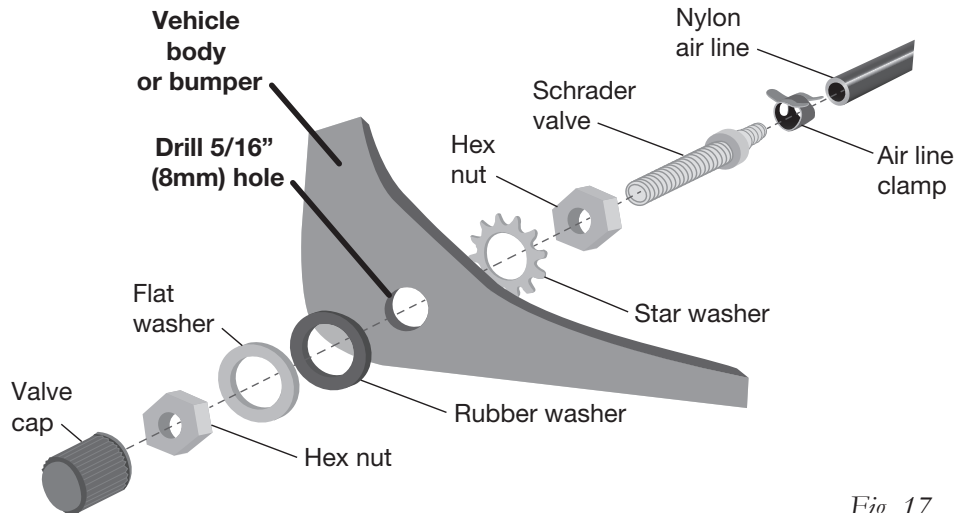

Fig. 17
6. Drill a 5/16" (8mm) hole for the Schrader valve and mount as shown (Fig. 17). Install the air line on the Schrader valve first. The rubber washer (K) serves as an outside weather seal.